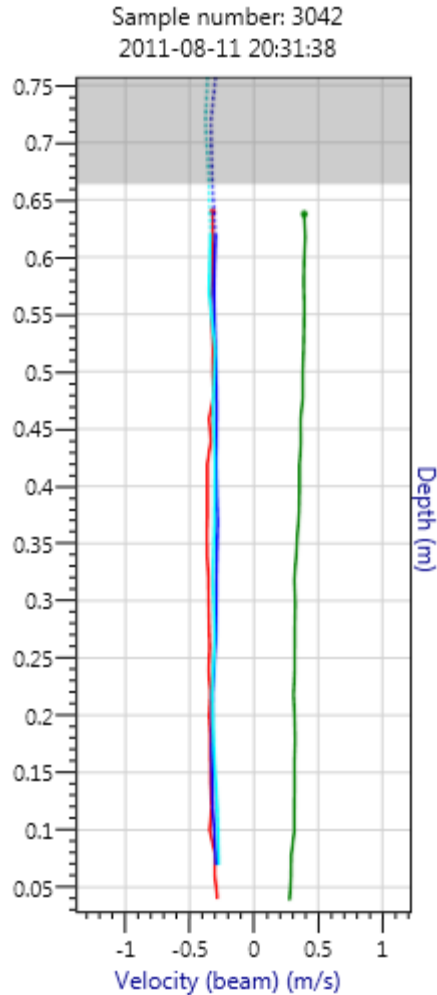

Figure 76. Profile chart
- Figure 76 presents velocity profile data.